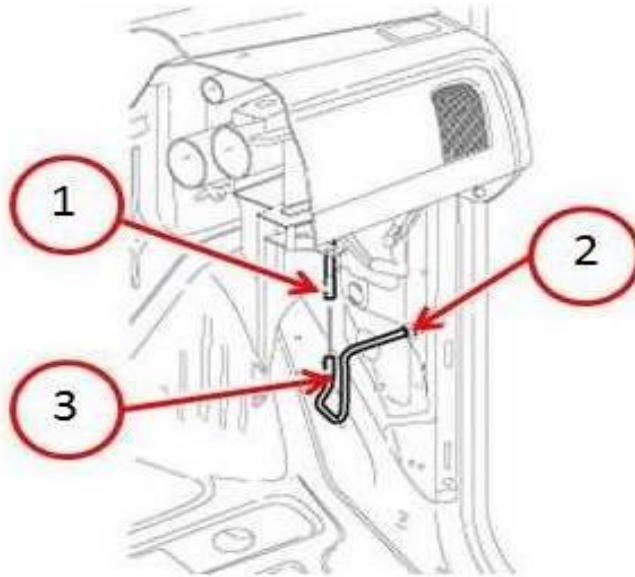

Fig. 8 Antenna Mast Connection
17. Connect the antenna mast connector to the instrument panel antenna cable (Fig. 8).